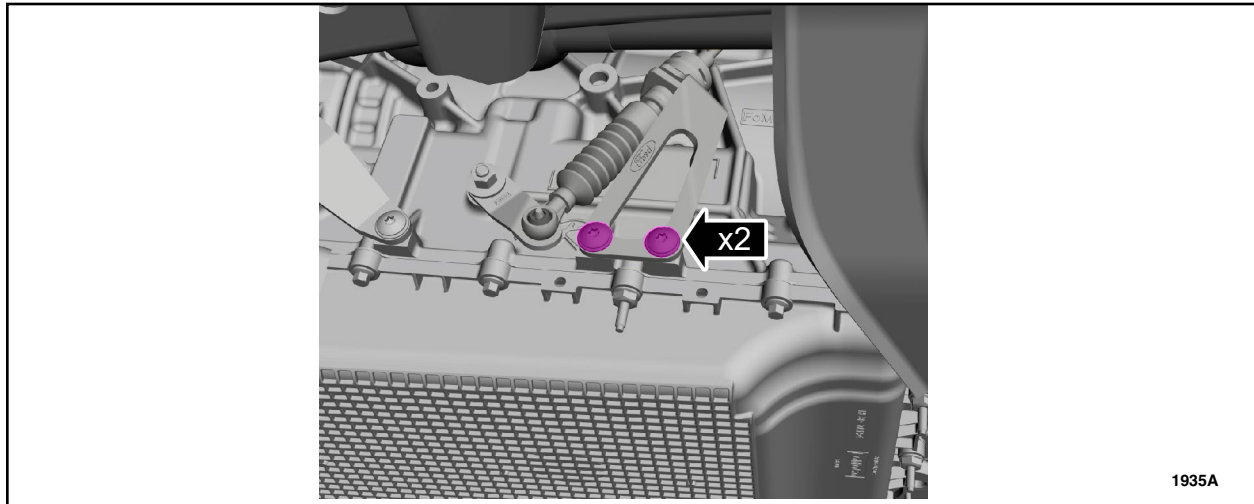

FIGURE 1
2. Torque the two transmission shift lever cable bracket fasteners, if the fasteners are missing or damaged replace the fasteners. See Figure 1.